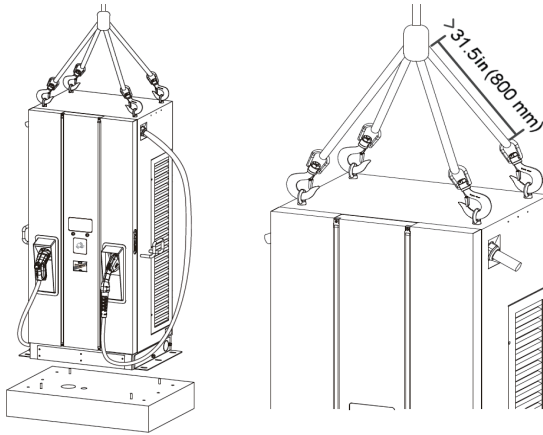

Figure 8. Moving the EVSE via Crane
4) To move the EVSE using a crane, attach a bridle hitch with four legs to the eye bolts using ¼ in. (6mm) diameter steel cables. Each leg of the hitch should be 31.5 in. (800mm) in length. See Figure 8.